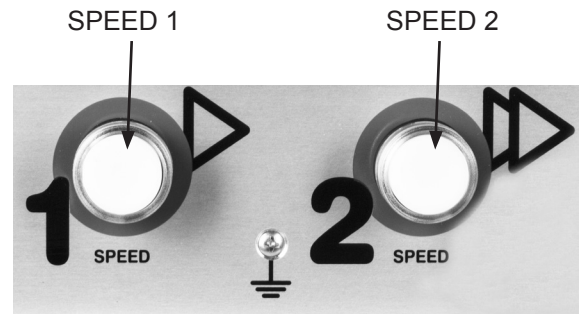

Figure 9-2.
6. Press the SPEED 1 button to pre-mix the ingredients at low speed. See Figure 9-2.